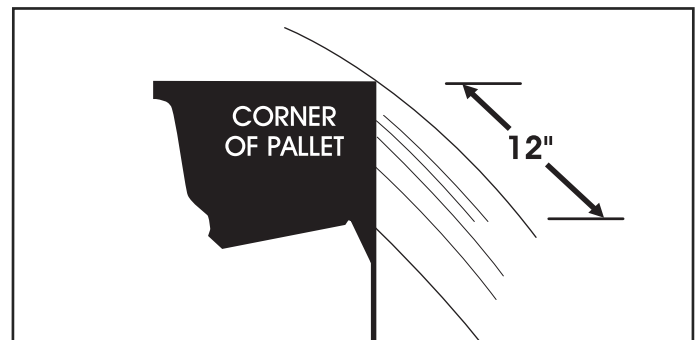

Figure 7
1. Cutting the film approximately 12" past a corner is suggested. Note: It is easier to cut the film if Stretch Set™ is in the ON position. (See Figure 7)